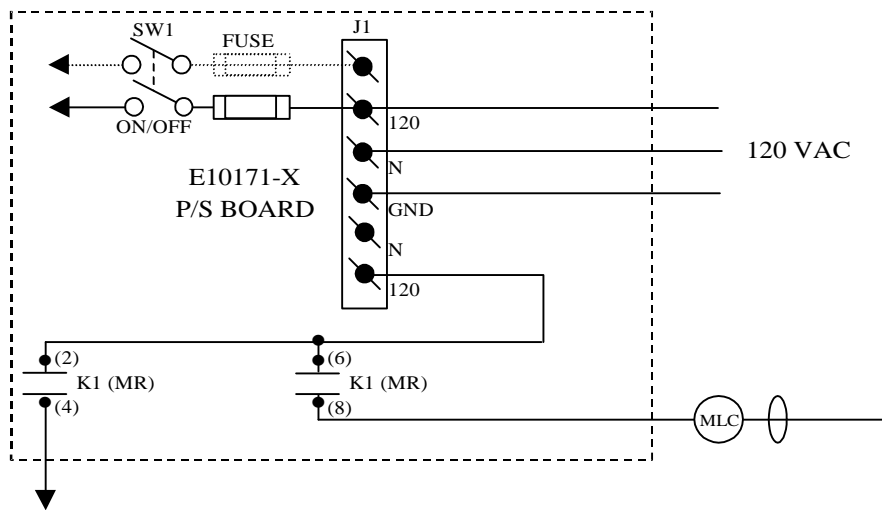
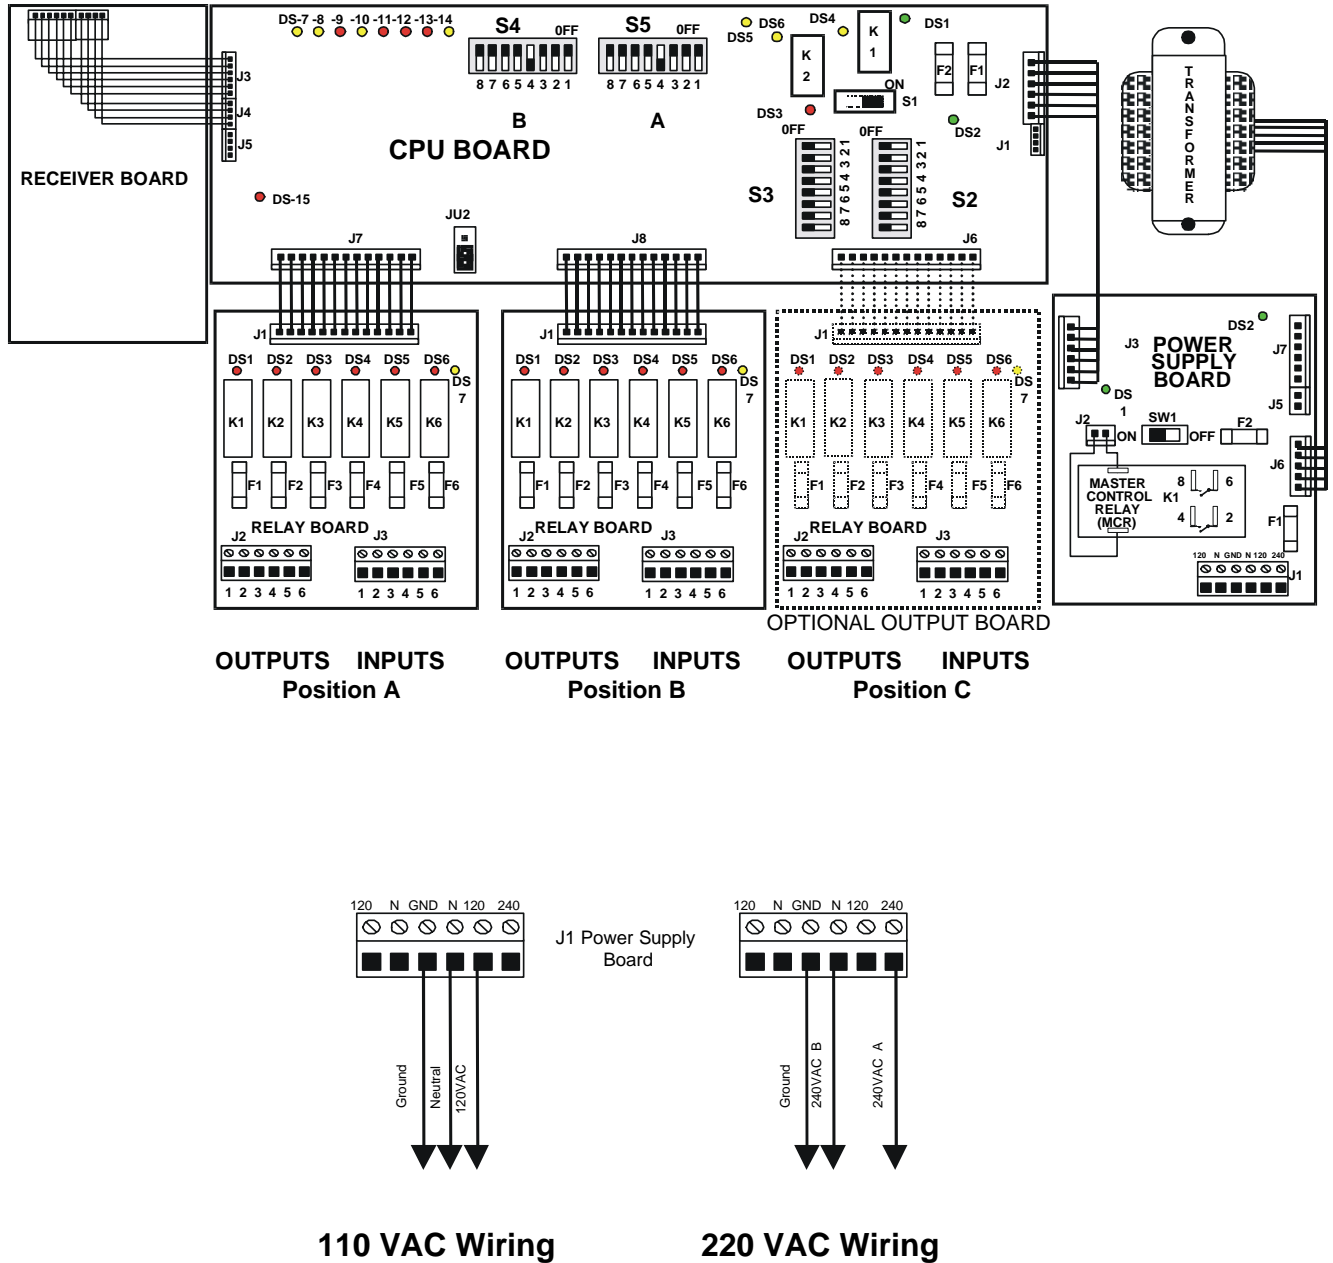

Figure B-1. Optional 120 VAC Wiring Diagram
Figure B-2. 10K12 Wiring Layout
Power supply wiring is accomplished through connector J1 on the power supply board. The connections labeled 240, 120, N and GND are wired to the appropriate supply connections per the wiring diagrams. An extra connection 120 is provided for 120 Volt applications only for jumpering to Pins 2 and 6 of the Master Relay (MR) K1 on the power supply board. The unit may optionally be wired as in Figure B-1. Figure B-2 shows the wiring layout. All other wiring is accomplished per the attached tables.